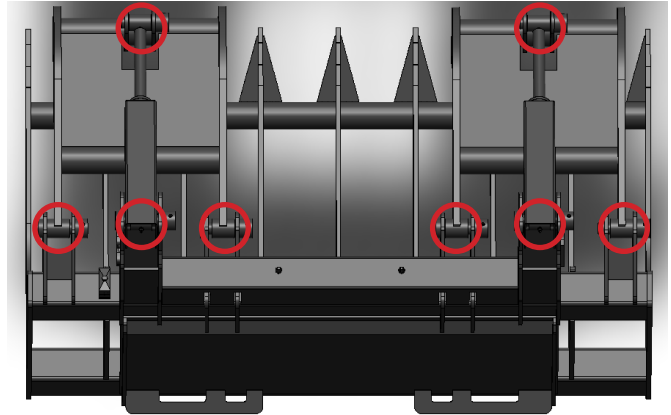

Figure 1
The Severe Duty Root Grapple has eight (8) grease points. These points are circled in Figure 1.